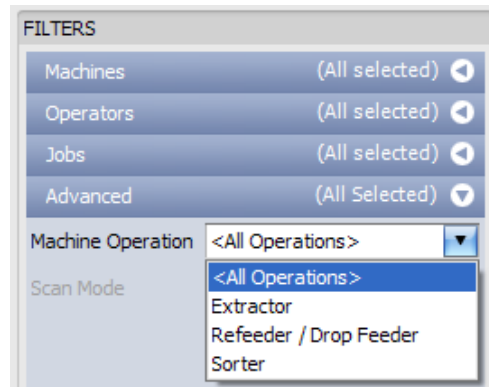

Figure 5-4: Insight Dashboard - Filters
3. In the **Filters** section (Figure 5-4):